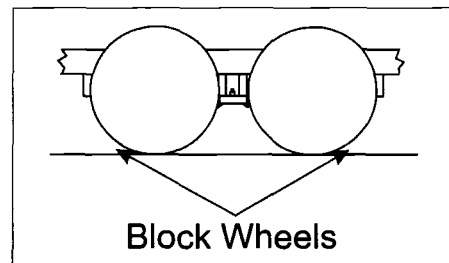

Fig. 1
1. Place the trailer on a hard flat surface. Block the wheels on each side of the trailer (Fig. 1).